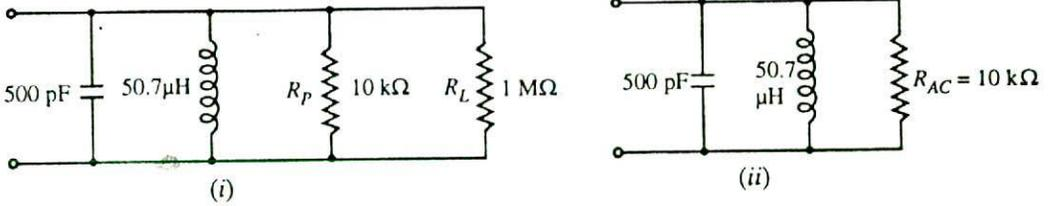

Fig. 17.19
**Example 17.6.** In the circuit shown in Fig. 17.19,  $C = 500 \text{ pF}$  and the coil has  $L = 50.7 \mu\text{H}$  and  $R = 10 \Omega$  and  $R_L = 1 \text{ M}\Omega$ . Find (i) the resonant frequency (ii) d.c. load and a.c. load.
The equivalent circuit is shown in Fig. 17.19 (i). This further reduces to the circuit shown in Fig. 17.19 (ii).